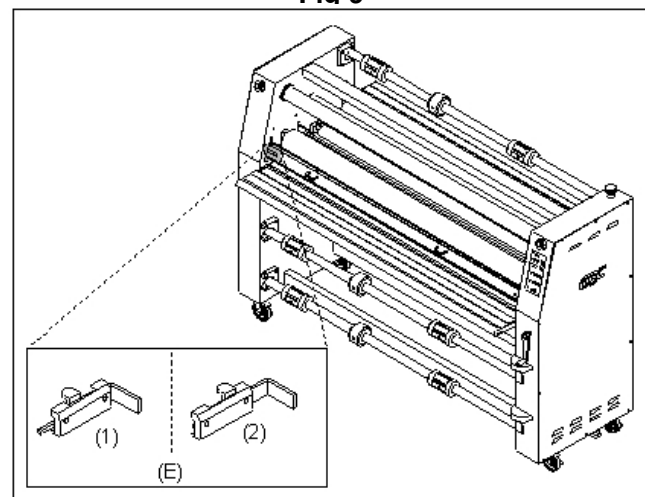

Fig 10
E. SAFETY SHIELD INTERLOCK LATCH: (Figure 10) Used to lock the safety shield into position and activate an interlock switch. The interlock latch is located on the left side of the safety shield. When pushed to the full left (1), the safety shield is locked. When pushed to the full right (2), the safety shield is unlocked.